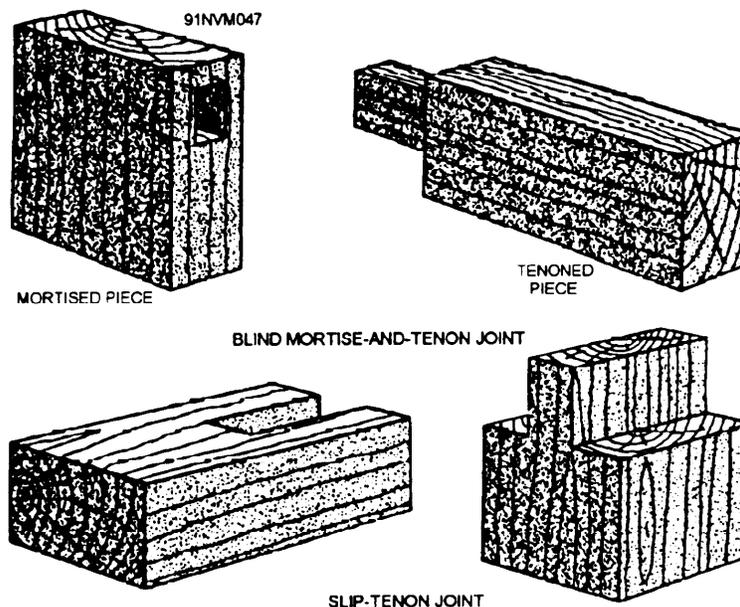
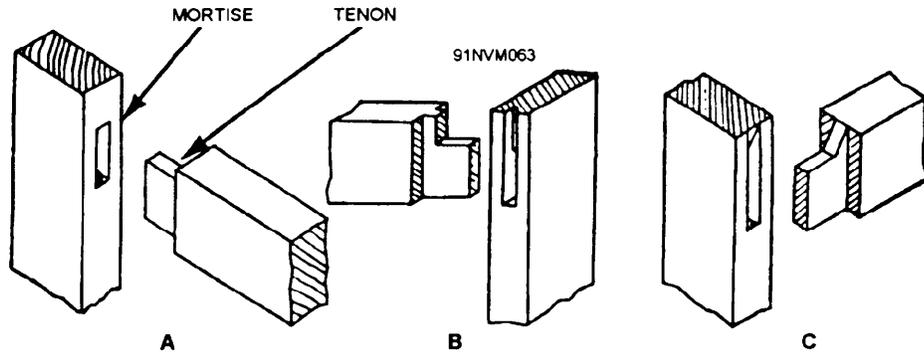

Figure 3-21.—Mortise-and-tongue and slip-tenon joints.
Figure 3-37.—Mortise-and-tenon joints. A. Stub. B. Haunched. C. Table-haunched.
Good furniture has several mortise-and-tenon joints (fig. 3-21). This joint appears weak, but when glued it is very strong. It can be wedged, split, or offset. You can't go wrong with properly designed and fitted mortise-and-tenon joints. Use the slip-tenon joint the same way as a miter or corner half-lap joint. Secure it with dowels, screws, bolts, or nails and then glue it.
The mortise-and-tenon joint is mostly used in furniture and cabinet work. In the blind mortise-and-tenon joint (refer to fig. 3-21), the tenon does not penetrate all the way through the mortised member. When the tenon penetrates all the way through, it is a through mortise-and-tenon joint. Besides the ordinary stub joint (fig. 3-37, view A), there are haunched joints (view B) and table-haunched joints (view C). Haunching and table-haunching increase the strength and rigidity of the joint.
**NOTE:** You wouldn't need this last step of the layout for a slip-tenon joint, like the one shown in figure 3-21.